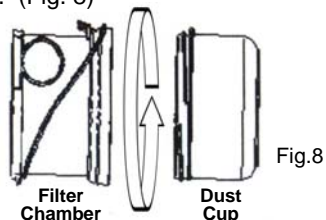

Fig.8
3. Rotate the lower dust cup clockwise to separate it from the filter chamber. Empty and clean the dust cup. (Fig. 8)